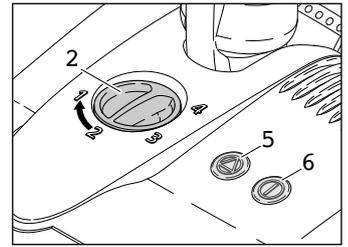
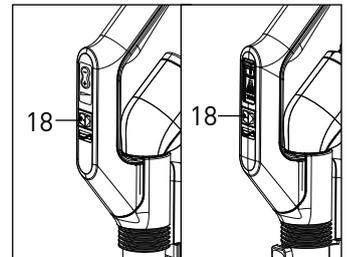
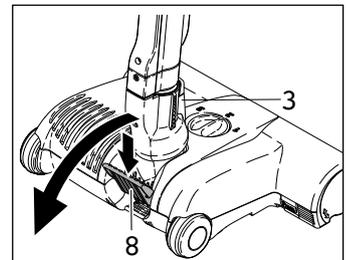

Figure 4
Figure 5 - on/off power switch on handle
Figure 6
Operating The Power Head Without Foot Switch - Figures 4, 5 & 6
A. The power head may be switched on by pressing the button on the handle of the telescopic tube (figure 5). When the power head is switched on with the swivel neck (#3, figure 6) in the upright locked position, the brush roller will not spin. To release the power head from the upright locked position, press down on the foot pedal (#8, figure 6) and lower the swivel neck into the normal operating position. The brush roller will then start spinning and the on/off light on the power head will illuminate in green. The handle can be lowered to a horizontal position useful for vacuuming under beds.
B. To switch from brushing action to straight suction for delicate floors, press the brush roller on/off switch (#18, figure 5) on the handle of the telescopic tube. This will power off the brush roller on the power head. The brush roller indicator light on the power head will turn off until the on/off switch is turned on again.
Operating The Power Head With Foot Switch - Figures 4 & 6
A. When the power head is switched on with the swivel neck (#3, figure 6) in the upright locked position, the brush roller will not spin and the on/off light will illuminate in yellow. To release the power head from the upright locked position, press down on the foot pedal (#8, figure 6) and lower the swivel neck into the normal operating position. The brush roller will then start spinning and the on/off light on the power head will illuminate in green. The handle can be lowered to a horizontal position useful for vacuuming under beds.
B. To clean delicate or hard floor surfaces with straight suction only, the power head is equipped with an on/off foot switch (#6, figure 4). When this switch is used to turn off the brush roller, the green light will change to yellow, indicating to the user that the brush roller is not turning. Pushing the button again will turn on the brush roller and the light will turn green.
The Brush Height Adjustment Feature - Figure 4
Indicator Lights - Figures 4, 6 & 7
By pushing the foot pedal (#8, figure 6) and lowering the swivel neck, you activate the power head and the brush begins spinning. Failure to use the foot pedal will cause lasting damage to the machine. The electronic brush control constantly monitors the status of the brush, communicating the status through the lights on top (figure 4).
4. Models without foot switch: The on/off switch on the handle of the telescopic tube is in the off position. 4. Models with foot switch: The on/off switch on the power head is off.	4. Models without foot switch: Press the on/off switch on the handle of the telescopic tube to turn the power head on. See figure 5, page 6. 4. Models with foot switch: Press the power head brush on/off switch. See figure 4, page 6.